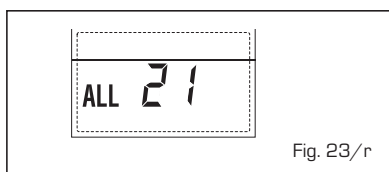

Fig. 23/r
**- SOLAR PROBE ERROR STORAGE TANK (S2) "ALL 25" (fig. 23/19)**